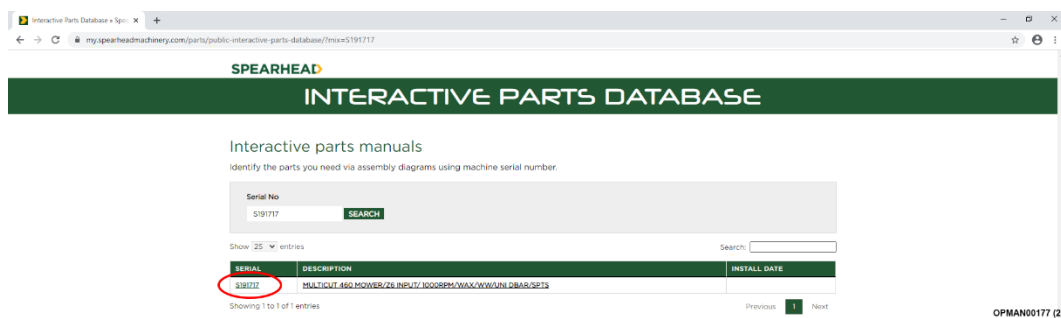

Figure 21 – Click On Serial Number
7.1.1.2 After entering the serial number a specification for the machine will appear. Click on the serial number; see Figure 21.